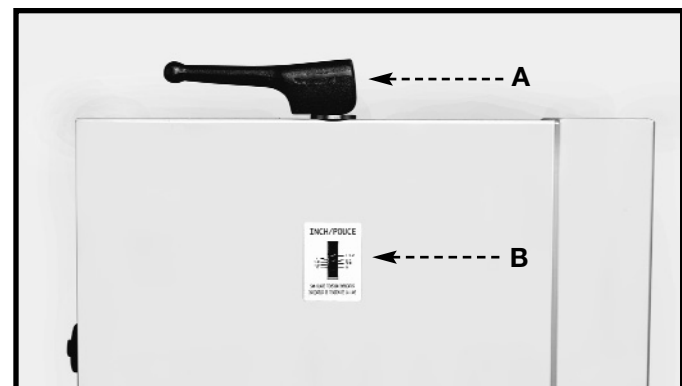

Fig. 17
1. Locate the blade tension lever (A) Fig. 17 on top of the machine.
2. Locate the Tension Scale (B) Fig. 17 on the back side of the upper wheel guard.